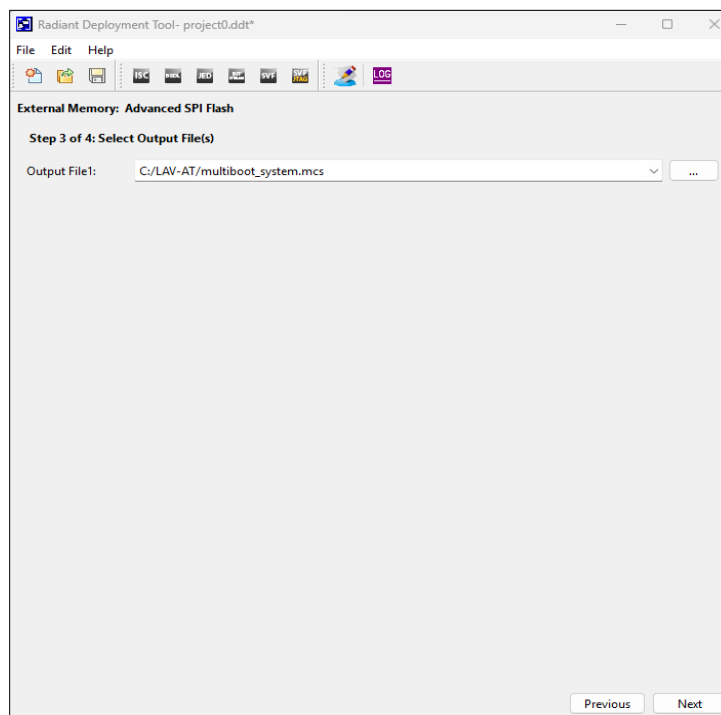

Figure 7.63. External Memory Step 3 of 4: Select Output File(s)
8. In **Step 3 of 4: Select the Output File(s)** as shown in Figure 7.63. Choose the location on your machine to generate an *.mcs* file.